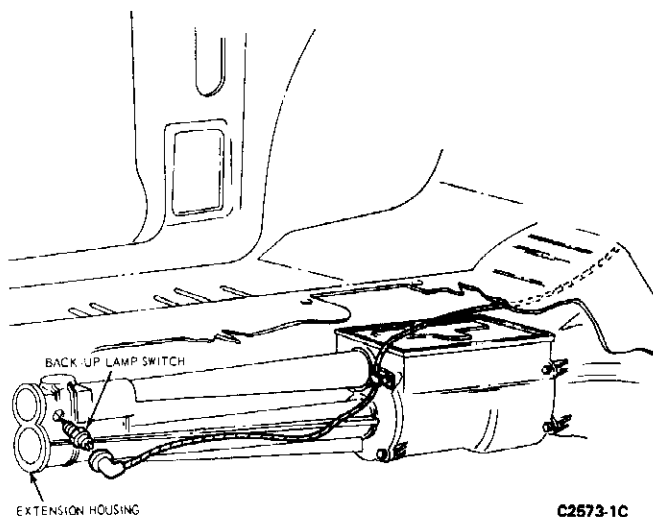

FIG. 5 Removing Back-Up Lamp Switch
2. Raise the vehicle and remove the back-up lamp switch from the extension housing (Fig. 5).